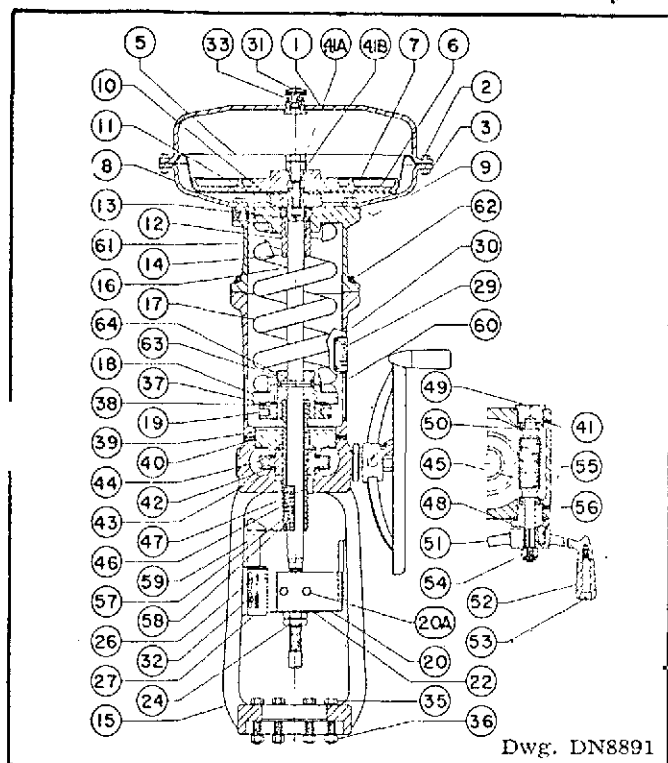

Figure 12—Type 667MO Size 87 actuator with side mounted handwheel. Size 70 is similar except for the smaller yoke boss.
Type 667MO, Sizes 70 and 87 (See Figure 12)
Careful observation during any disassembly and use of the sectional drawing in Figure 12 will greatly aid in the assembly of the Type 667MO
(See Figure 12)
5. Lift out the cage and gaskets. For restricted trim (Figure 12) also remove cage adaptor and seat ring adaptor. If the cage is stuck, use a screwdriver to pry it loose. A groove is provided near the top of the cage for this purpose.
2. For restricted trim, (Figure 12) replace the adaptor gasket and the adaptor.